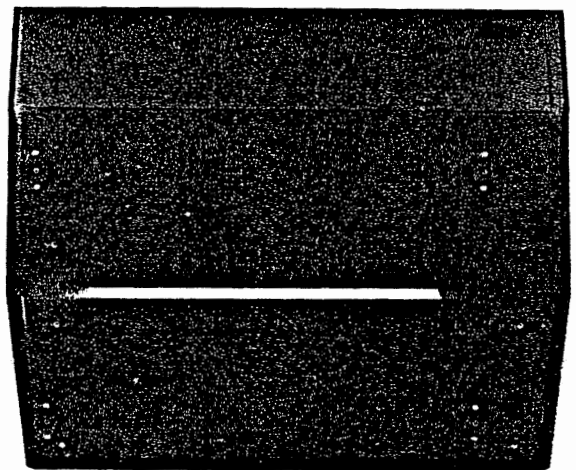

FIGURE 4-30 Bottom Cover
The Printer Assembly is held to the bottom cover by four (4) bolts inserted from the bottom through sound-deadening shock-mount feet. As illustrated in Figure 4-30, a slot is provided for using bottom forms-feed and an exit hold for the A.C. line and interface cables.